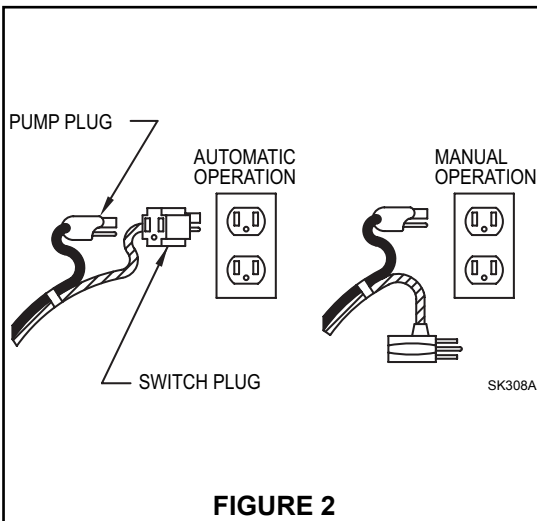
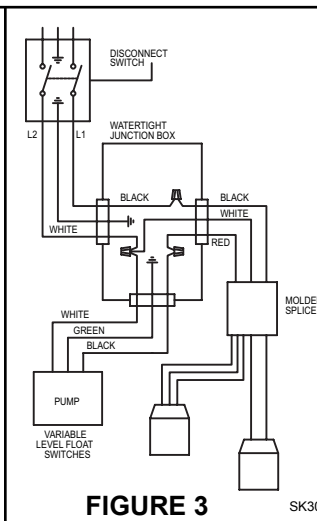
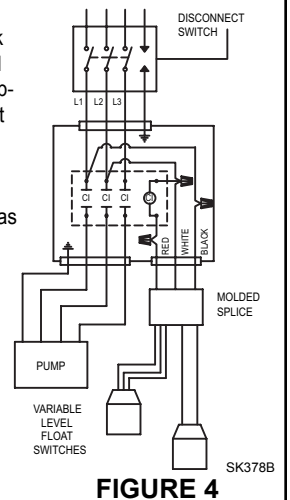

FIGURE 2
FIGURE 3
FIGURE 4
- Insert the piggyback plug from the switches into a standard grounded outlet of proper voltage. For automatic operation plug the pump directly into the piggyback plug. (Pump can be manually operated by bypassing piggyback plug.) See Fig. 2. **NOTICE: For installation utilizing a watertight junction box or similar connections, see Figure 3.** **NOTICE: For installation as a control switch for magnetic or combination starter, see Figure 4.**